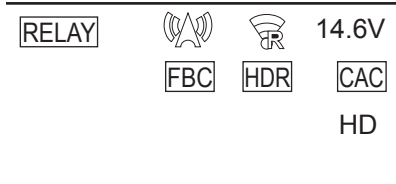

Fig. 1
- 2 Set the power switch to < | > (ON) and confirm following items.**
- Level of the battery is sufficient in the status display in the control panel. (Fig. 1)